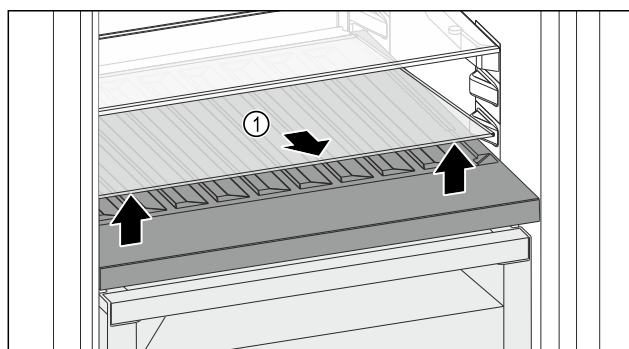

Fig. 157
- Lift the glass shelf Fig. 157 (1) at the front and remove.
- Store the glass shelf Fig. 157 (1) in a safe place outside the appliance.